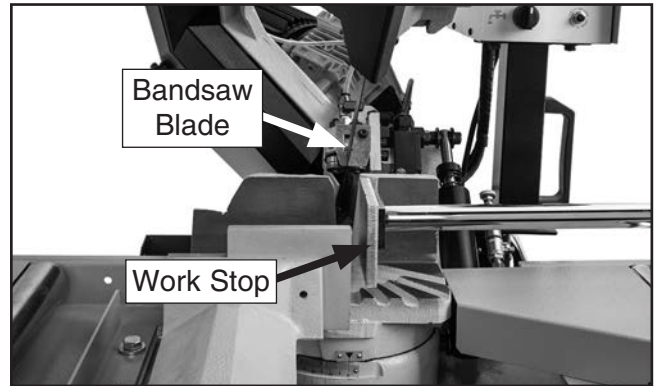

Figure 10. Push bar aligned with workpiece cutting point.
9. Align workpiece stop with workpiece where it will contact bandsaw blade (see **Figure 10**).